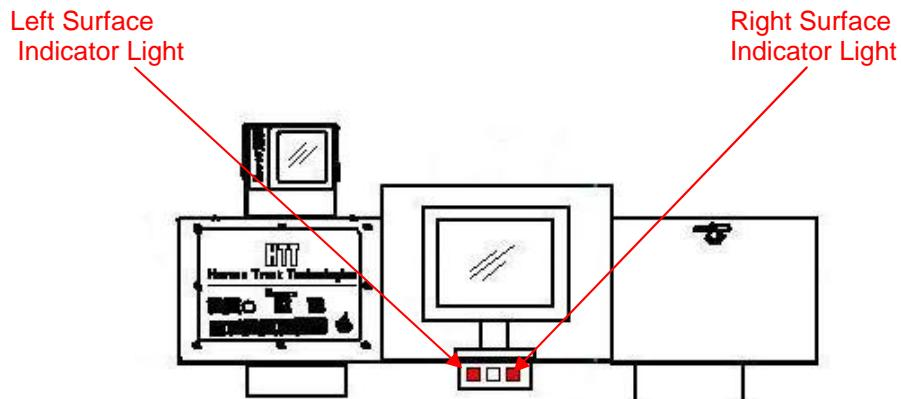

Figure 4-6
When the operator initiates cycle and the surfacing receivers “see” the light from the surface projector, the program enables the outputs which supply power to the jack valve coils. Jacking continues until the rising shadow board prevents the receivers from “seeing” the light beam. When the light beam is blocked, the program de-energizes the outputs to the jacking coil. (There are lights on the operator’s control panel that indicate when the left and right receivers are “seeing” the light from the projector. (See figure 4-6).
There are two (2) surface indicator lights (red) located in the center of the main computer screen and on the center panel in front of the operator. Refer to figure 4-6. If the computer receives a signal from the receivers, the left and/or right surface indicator lights illuminate which indicates to the operator that jacking is occurring.